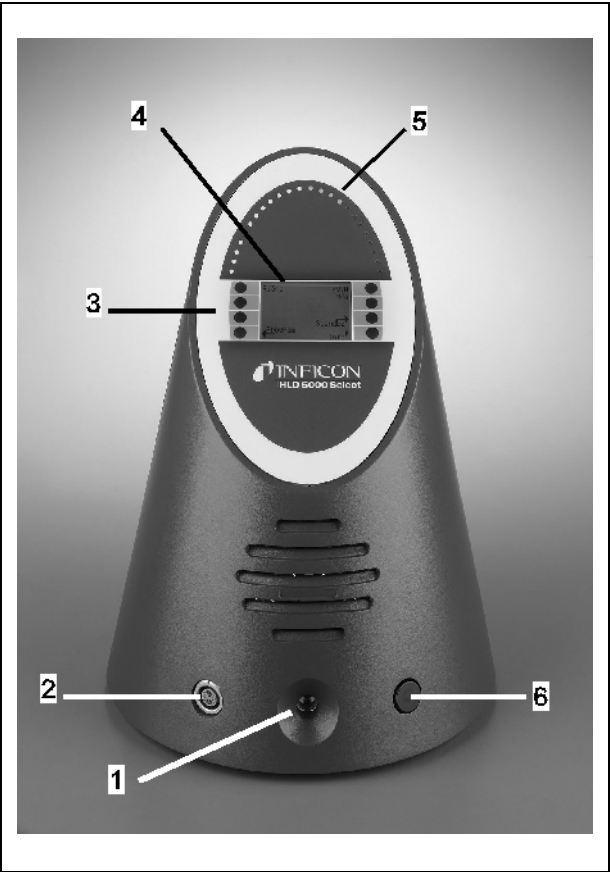

Fig. 3-2 Main unit
Press the mains switch (Fig. 3-2/6) to switch on the HLD5000. The HLD5000 will take about 30 seconds to warm up as indicated by the display.
After the warm-up phase of the HLD5000, an audible signal is produced and the leak detector will be ready to make measurements. The green LED (Fig. 3-3/2) in the probe indicates that the HLD5000 is ready to make measurements. The type of gas to which the HLD5000 has been programmed as well as the unit of measurement for the leak rate (factory default: g/a) is indicated on the display (Fig. 3-2/4). Moreover, the type of probe (detectable gas) to which the HLD5000 has been set up is indicated on the sticker on the probe.
The HLD5000 compares the measured leak rates with the rejection leak rates (trigger levels) set up as described in Chapter 4.1. If the measured leak rate exceeds the rejection leak rate, then more than half of the yellow lamps (LED) on the arc-shaped display (Fig. 3-2/5) will come on and an audible alarm is released.
The controls and display components of the HLD5000, with the exception of the button and the LED at the probe, are all located at the main unit (Fig. 3-2).
The HLD5000 is switched on and off via the mains switch (Fig. 3-2/6). In addition, it can enter a standby mode which can be activated automatically or manually.
The arc-shaped LED display (Fig. 3-2/5) is divided into a green half (on the left) and a yellow half (on the right). The relative leak rates as detected are indicated here. The center of the arc of LEDs where the LEDs change from green to yellow indicates the rejection leak rate which has been set up. Leak rates which remain below the rejection leak rate are indicated by the green LEDs, higher leak rates are indicated by the yellow LEDs. The last yellow LED corresponds to approximately 200% of the trigger level entered.
In its default setting the LC display (Fig. 3-2/4) will show the measuring screen after switching on:
Switch off the HLD5000 and switch it on again. During the warm up phase hold the menu key 3 or 7 pressed (see Fig. 3-2) until the display can be read properly again. (Keys are numbered beginning at the top left side with No. 1, going down and end with No. 8 at the button on the right side.) This value is saved permanently only after having acknowledged it through the menu item "CONTRAST". If this setting is not confirmed, the former setting will apply once again after switching on the HLD5000 once more.